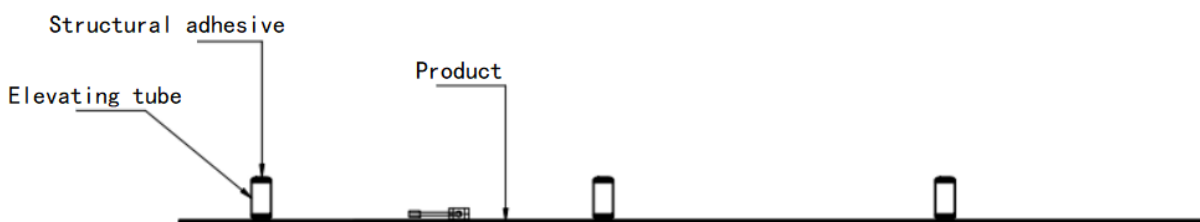
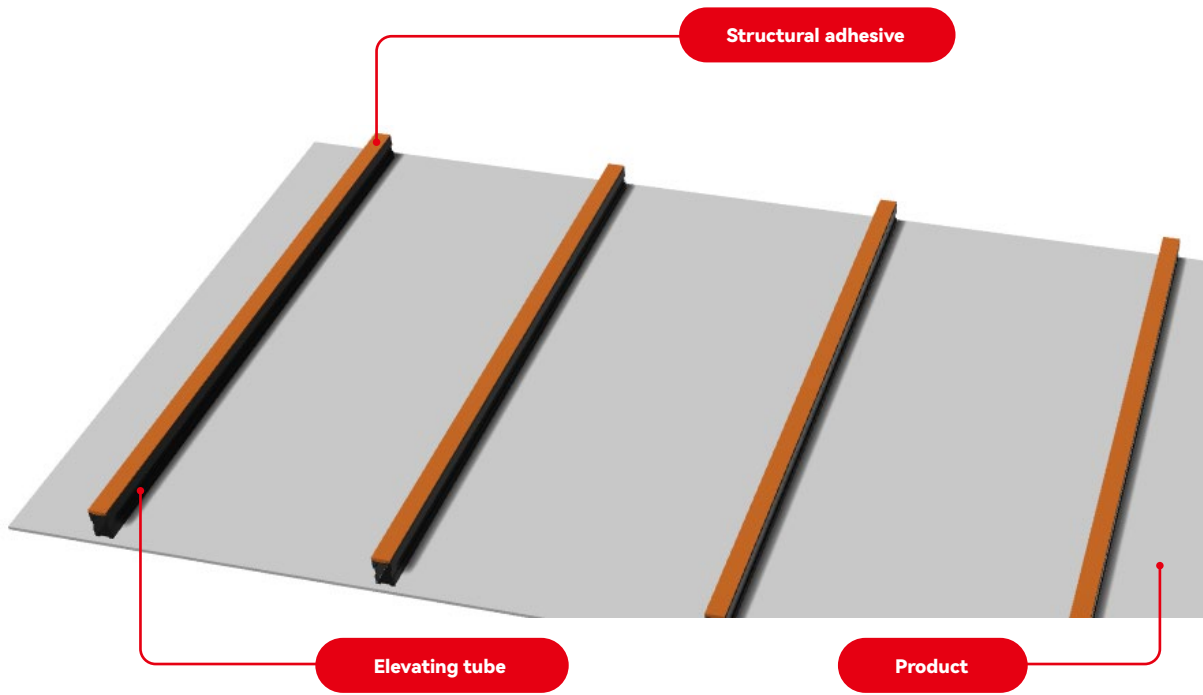

Figure 5
Figure 6
③ The cross-section of the structural adhesive should be a semi-circular shape with a width of more than 18mm and a height of more than 6mm. (Figure 5). A continuous bead of structural adhesive should be applied along the elevating tubes (see Figure 6).